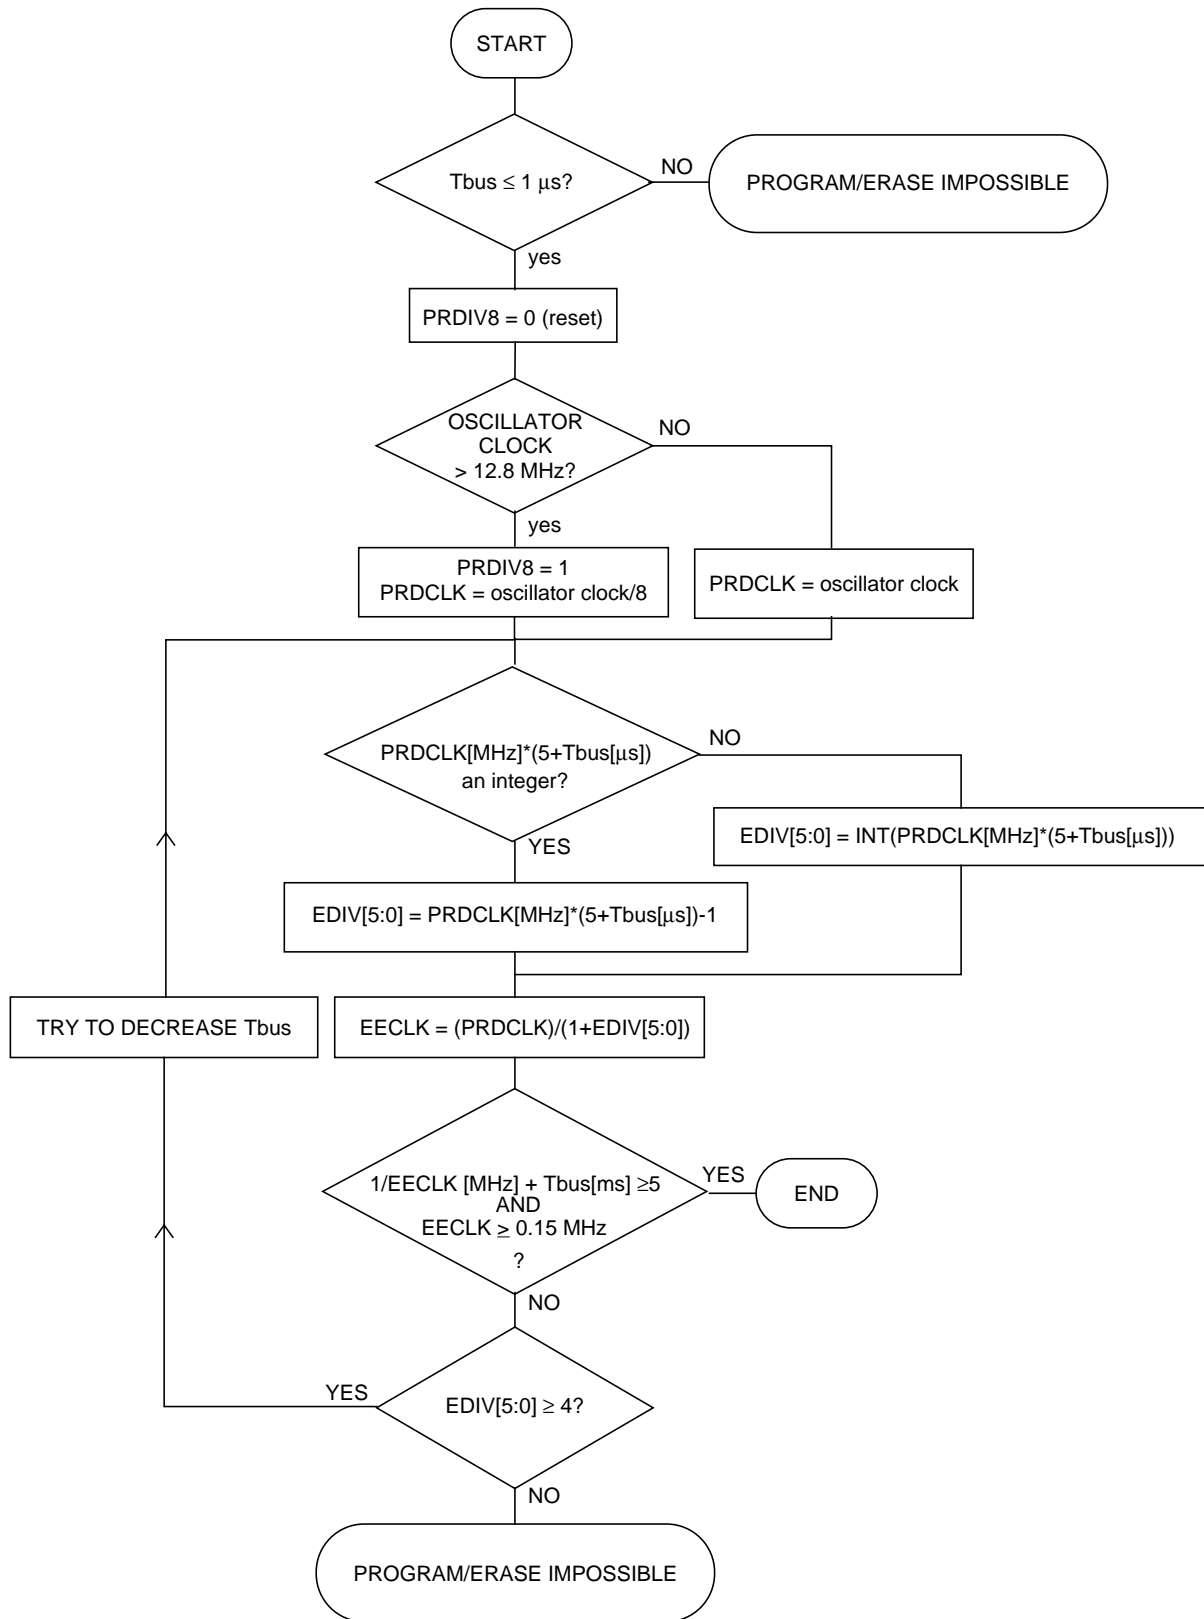

Figure 1-17. PRDIV8 and EDIV Bits Determination Procedure
- INT(x) as taking the integer part of x (e.g., INT(4.323)=4), then ECLKDIV register bits PRDIV8 and EDIV[5:0] are to be set as described in Figure 1-17.